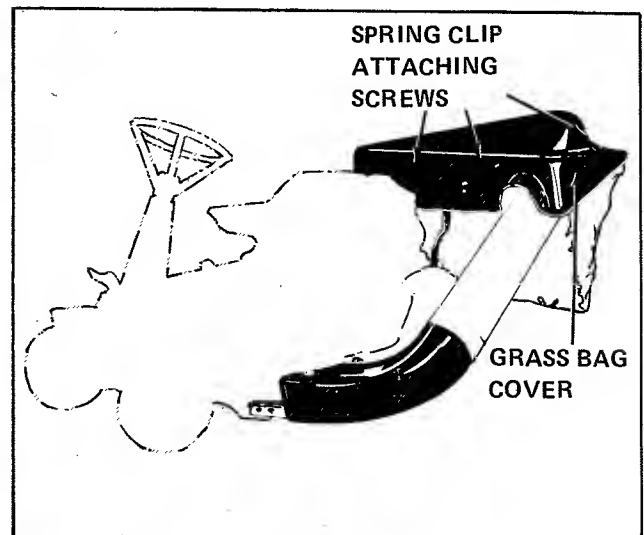

Figure 5.
9. See Figure 5. To install grass bag cover, position it above bag, align cutout on front side with discharge tube, and push down firmly to snap spring clips over outside of bag frame, and top panel.